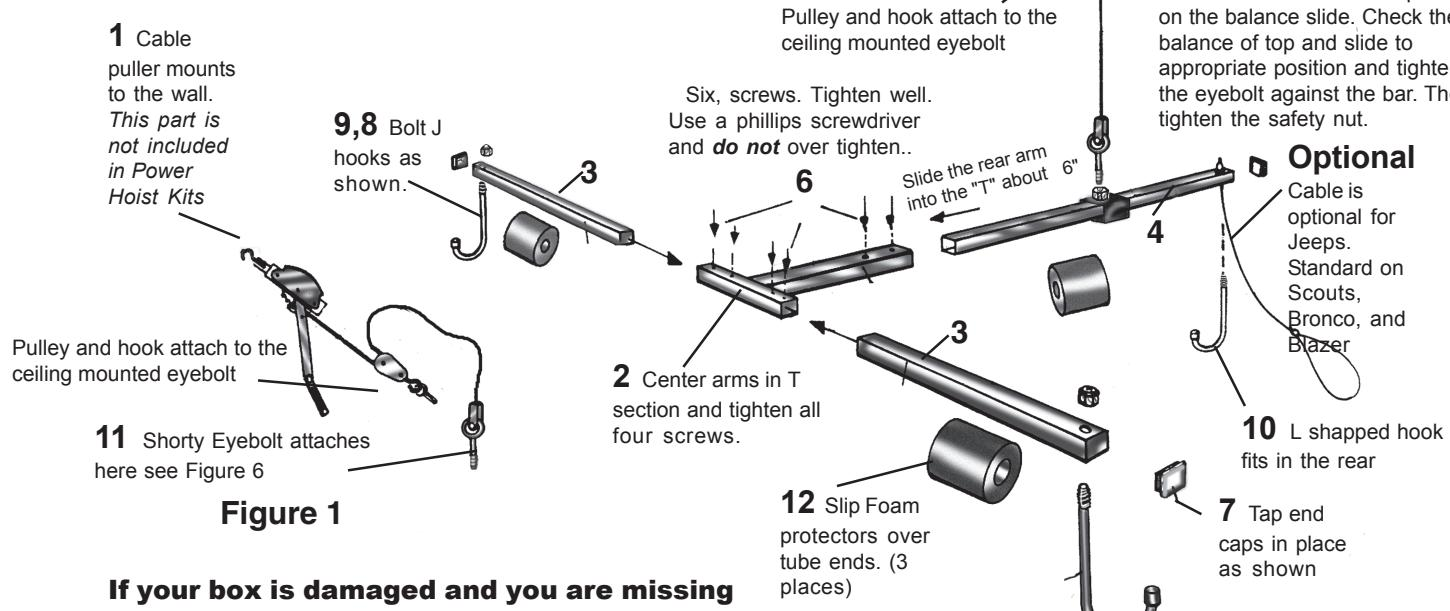

Figure 1
Please follow in order and read carefully before starting. Parts from the above diagram (Figure 1) are represented in the text in parenthesis: example Hoist Frame T Section (2).
2 Assemble the hoist frame as shown in Figure 1. Clip the Cable Puller (1) to the wall Eye Bolt (5) and then clip the pulley and hook to the ceiling Eye Bolt (5) as shown in Figure 5. Connect the shorty eyebolt as shown in Figure 6 to the cable puller and then attach to the slide. Place the Slide in the approximate position as shown in Figure 5 and hand-tighten the eyebolt to the arm. Slip the Foam Top Protectors (12) over the three arms of the hoist frame as shown in Figure 1. Hammer the End Caps (7) into the arms of the hoist frame. Attach the 3/8" Nylon Capture Nuts (8) to the hooks as
shown in Figure 1. **Tighten until one thread shows above the nut end.** Slip the frame arms into the hoist Frame T Section (2) as shown in Figure 1. **Insert and hand-tighten the #4 Screws (6) in the Frame Arms with a screw driver (3). Do not overtighten**